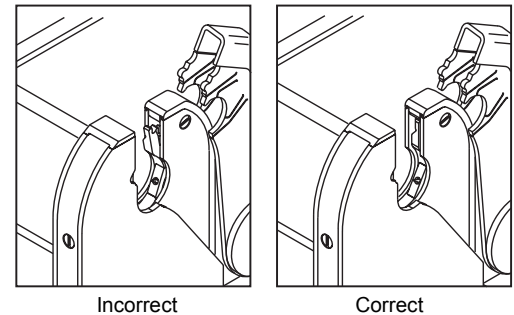

Figure 17 *Home Position of Rotor*
10. Press **HOME** to return the rotor to the home position as shown in Figure 17.